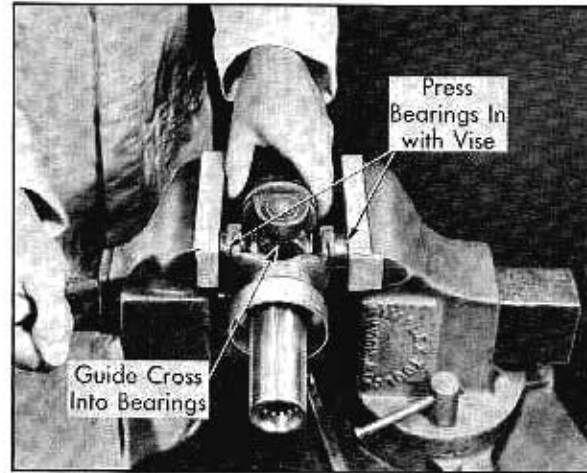

Fig. 8-13 Installing Bearings
5. Start opposite bearing into propeller shaft yoke and place in vise with jaws against bearings. Fig. 8-13.